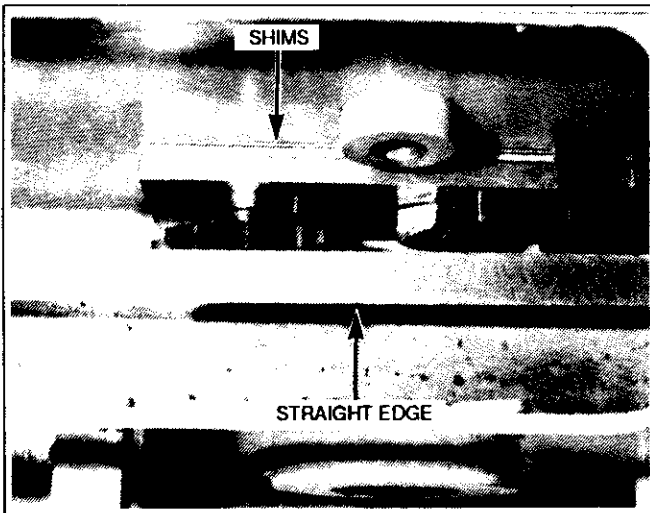

Figure 6-28
1. When reinstalling the idler sprocket, alignment with the axle sprockets must be maintained. This is done by placing a 36 inch by 1 inch steel straight edge between the axle sprockets and the edge of the idler sprocket. Add or delete shims as needed. (See figure 6-28)